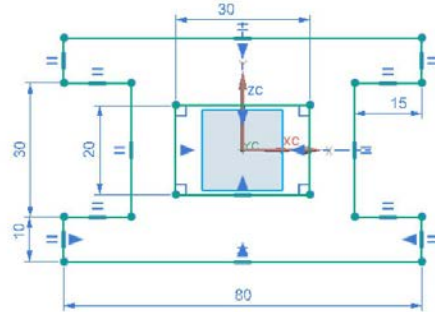

Figure 3-53 The sketch after adding the required dimensions and constraints
- Add dimensions to the rectangle to complete the sketch, refer to Figure 3-53.
7. Similarly, double-click on the vertical dimension of the rectangle and modify the value of the dimension to **20**. Next, press ESC. Next, place the dimension on the left of the sketch, refer to Figure 3-53.